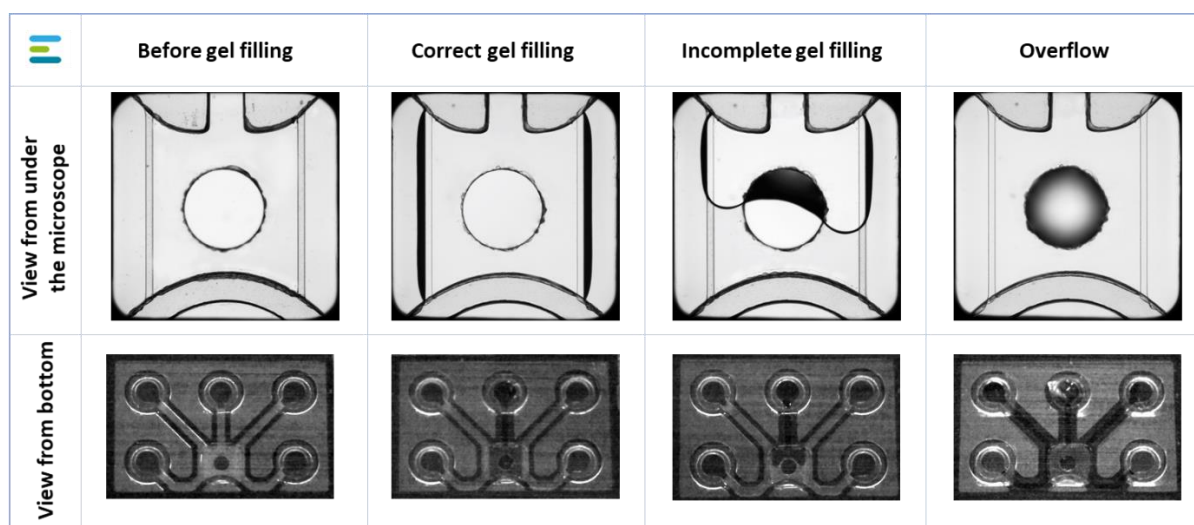

Figure 5: Overview of an empty chip, correct gel filling, incomplete gel filling, and overflow in the OrganoPlate® Graft
- f. For examples of correct gel filling in the OrganoPlate® Graft, see figure 5